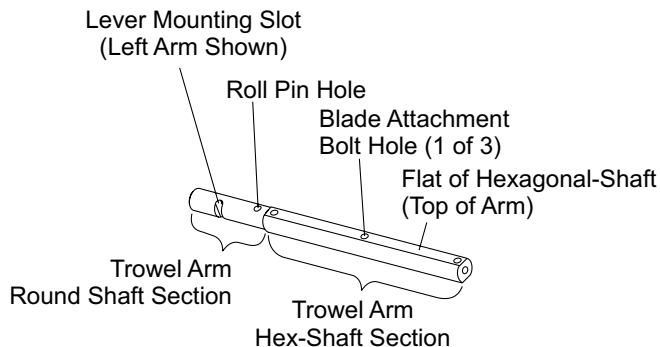
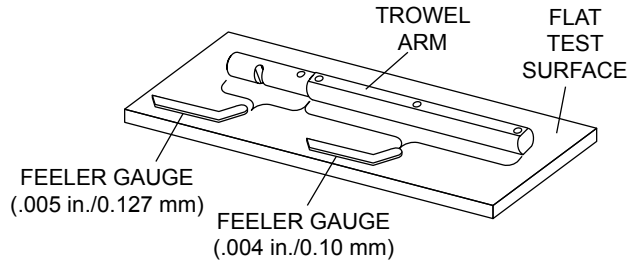

Figure 43. Trowel Arm
Figure 44. Checking Trowel Arm Flatness
Trowel arms can be damaged by rough handling, (such as dropping the trowel on the pad), or by striking exposed plumbing, forms, or rebar while in operation. A bent trowel arm will not allow the trowel to operate in a smooth fluid rotation. If bent trowel arms are suspect, check for flatness as follows, refer to Figure 43 and Figure 44:
2. Check each of the six sides of the trowel arm (hex section). A feeler gauge of .004 in. (0.10 mm) should not pass between the flat of the trowel arm and the test surface along its length on the test surface. (Figure 44).